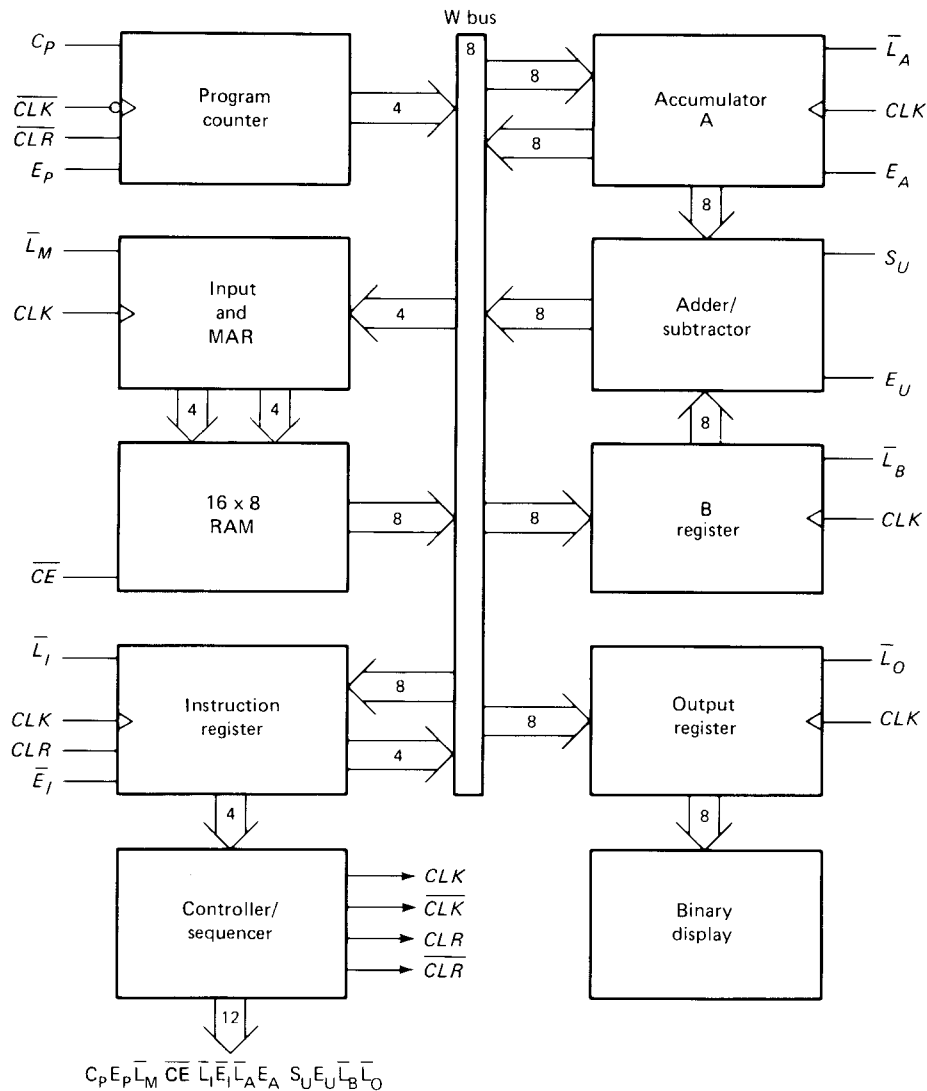

Fig. 10-1 SAP-1 architecture.
Figure 10-1 shows the *architecture* (structure) of SAP-1, a bus-organized computer. All register outputs to the W bus are three-state; this allows orderly transfer of data. All other register outputs are two-state; these outputs continuously drive the boxes they are connected to.
The layout of Fig. 10-1 emphasizes the registers used in SAP-1. For this reason, no attempt has been made to keep all control circuits in one block called the control unit, all input-output circuits in another block called the I/O unit, etc.
Many of the registers of Fig. 10-1 are already familiar from earlier examples and discussions. What follows is a brief description of each box; detailed explanations come later.
The *accumulator* (A) is a buffer register that stores intermediate answers during a computer run. In Fig. 10-1 the accumulator has two outputs. The two-state output goes directly to the adder-subtractor. The three-state output goes to the W bus. Therefore, the 8-bit accumulator word continuously drives the adder-subtractor; the same word appears on the W bus when  $E_A$  is high.
SAP-1 uses a 2's-complement *adder-subtractor*. When  $S_U$  is low in Fig. 10-1, the sum out of the adder-subtractor is